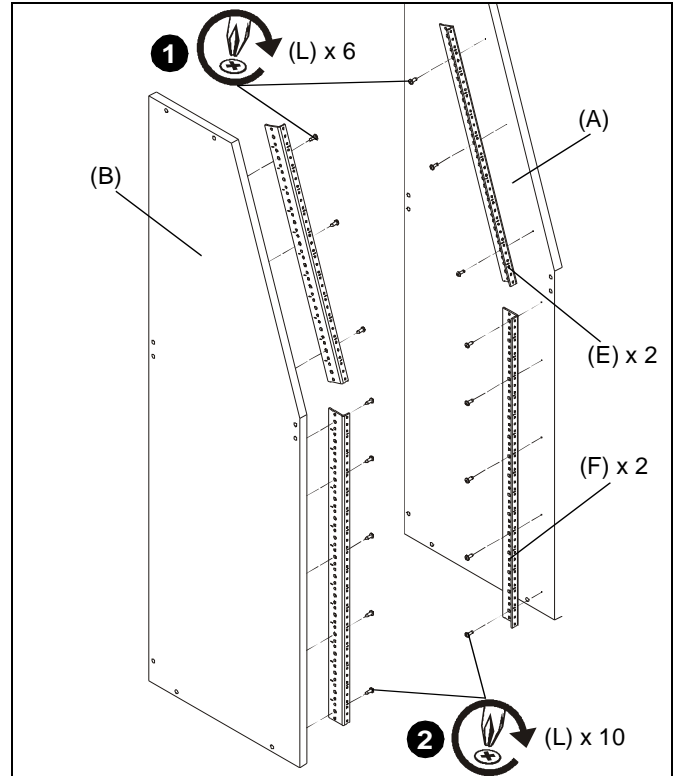

Figure 1
1. Use six #10 x 5/8" wood screws (L) to secure two 12-space rack rails (E) to two side panels (A and B). (See Figure 1)
2. Use ten #10 x 5/8" wood screws (L) to secure two 16-space rack rails (F) to two side panels (A and B). (See Figure 1)